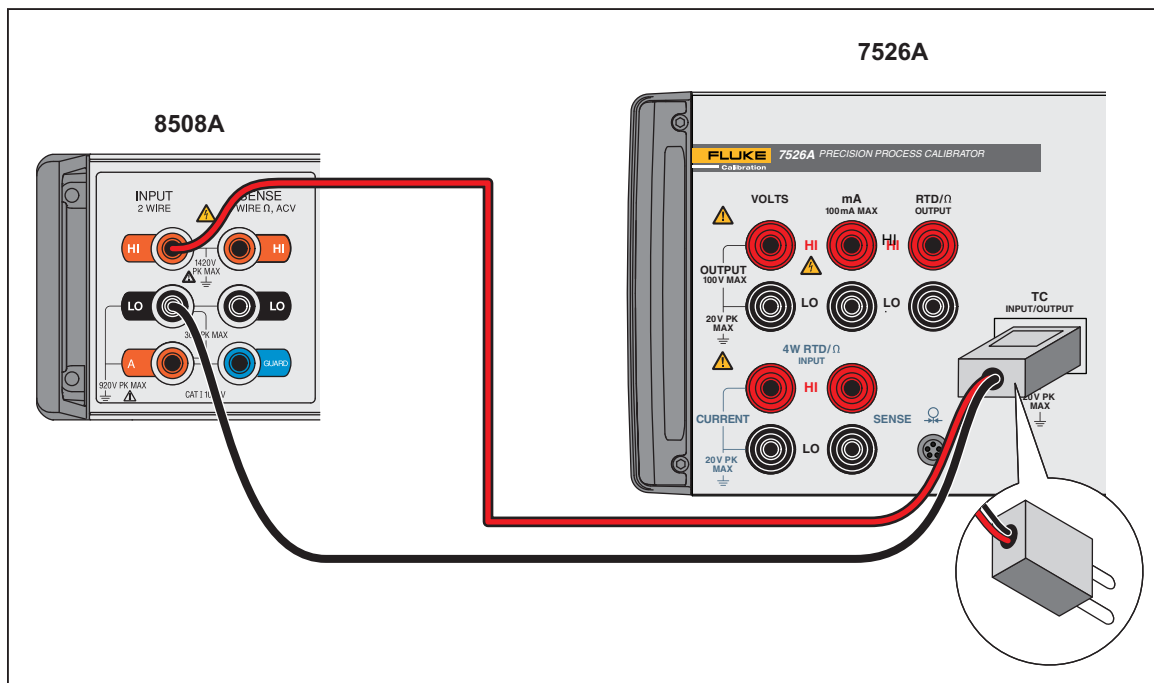

Figure 3. Thermocouple Output Performance Test Connections
The thermocouple (TC) output performance test verifies the accuracy of the TC output on the front panel of the Product. Thermocouple mV specifications will be used for this test. When this test is combined with the cold junction compensation (CJC) test, all functions of the TC output are checked. The cable necessary to connect the Product to the 8508A will need to be constructed. The TC mini-connector needs copper-copper (white). With copper wire, connect the mini-connector to standard banana jacks. See Figure 3 for connections.